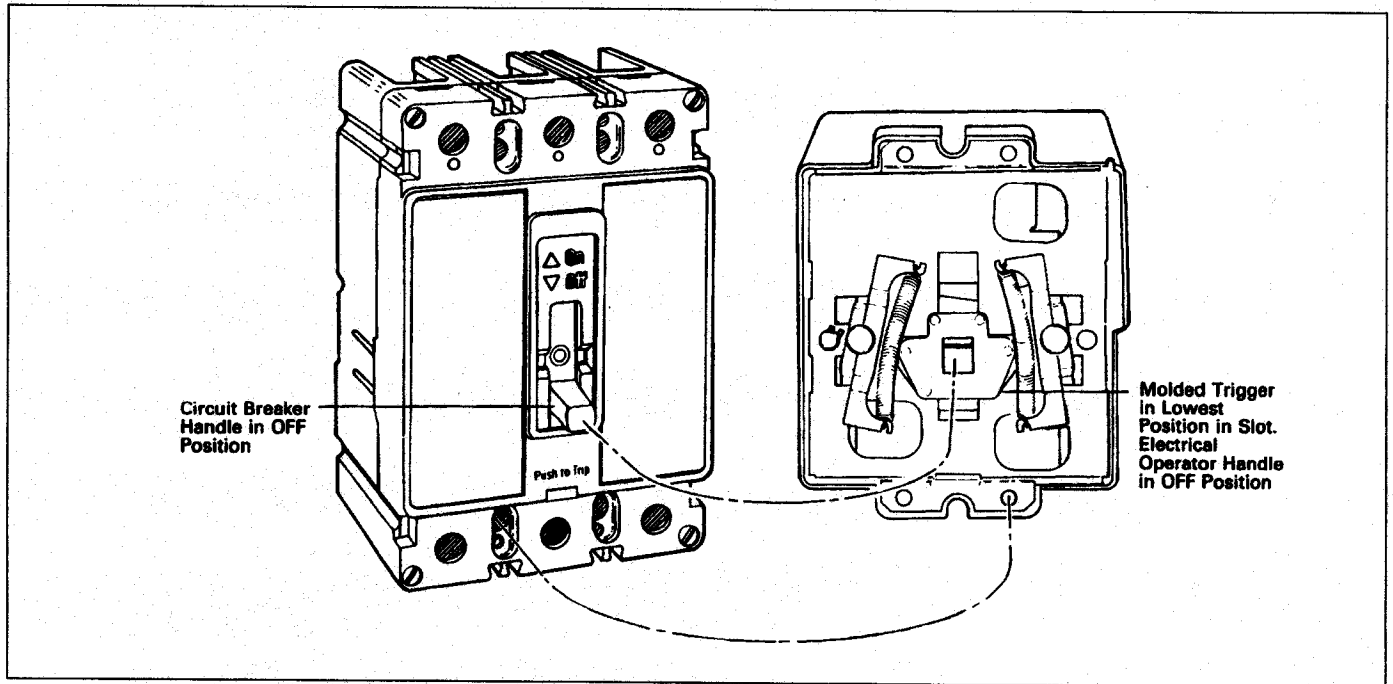

Fig. 2-3. Position for Mounting Electrical Operator to Circuit Breaker
- 2-8. Line up the circuit breaker handle and the molded trigger as shown in Fig. 2-3, and position electrical operator on the circuit breaker.